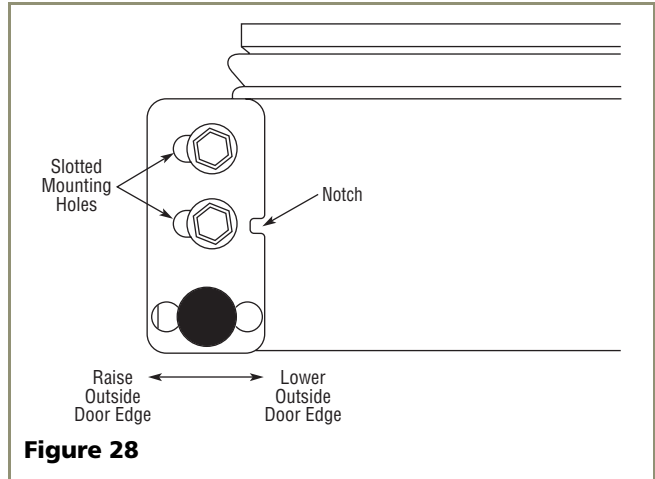

Figure 28
3. See **Figure 28**. If the top far edge of the door needs to move UP, move the hinge plate toward the outside of the door and retighten screws. If the top far edge of the door needs to move DOWN, move the hinge plate toward the inside of the door and retighten screws.